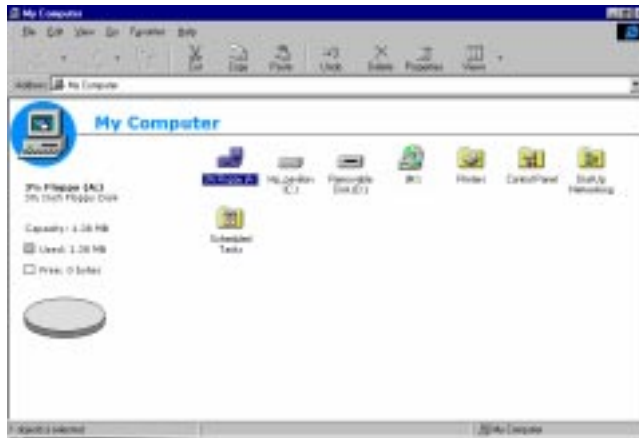
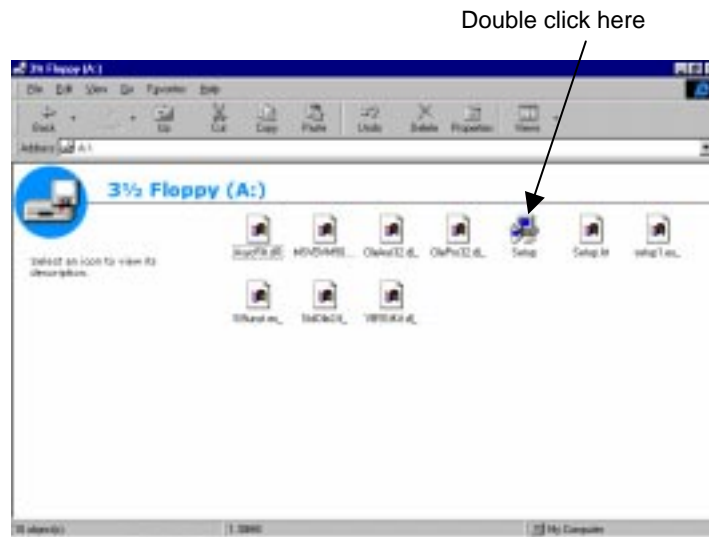

Figure 3.2 My Computer
Figure 3.3
Step 2 You will see figure 3.2. Your screen may not look identical as in figure 3.2.
Step 3 Double click on the 3 1/2 Floppy [A:] icon if A drive is used (Figure 3.2) or the 3 1/2 Floppy [B:] icon if B drive is used. Figure 3.2 is an example using **A drive**. You will see figure 3.3. Double click on **“Setup”** icon.
Note: If drive B is used, the “Message Box” in figure 3.2 still shows, “Please insert the disk labeled: “Disk 2” into drive A:\. Ignore the message.